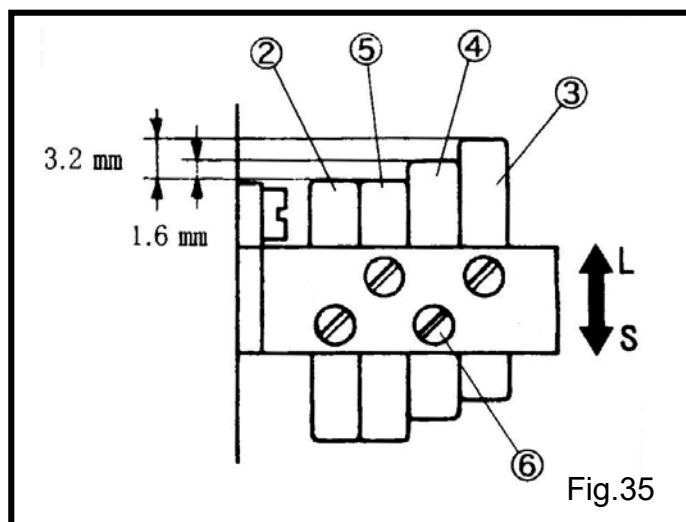

Fig.35
- (2) 第一片②要跟右邊第四針的線平齊。(Fig.35)
- (3) 設定第四片③離第一片②的高度為 3.2mm。
- (4) 設定第三片④離第一片②的高度為 1.6mm。
- (5) 設定第二片⑤離第一片②的高度為 0.8mm。
- (6) 對準後鎖緊螺絲⑥。
- (2) Set the top of pin② even with the needle thread as the fourth right needle. (Fig.35)
- (3) Set the pin③ 3.2 mm higher than the pin②.
- (4) Set the pin④ 1.6 mm higher than the pin②.
- (5) Set the pin⑤ even with or 0.8 mm higher than the pin②.
- (6) Tighten the screws⑥ securely.